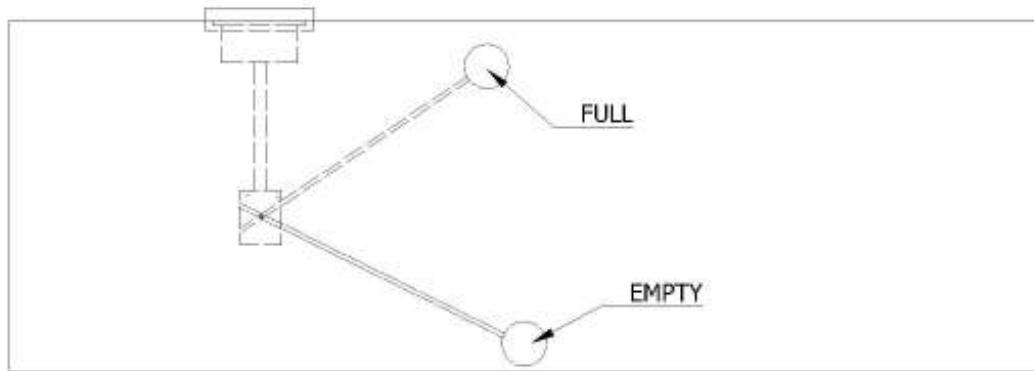

Fig. 9-5: Float mechanism
Scheme of fuel quantity is shown in the Fig. 9-5.
- (b) Set position and length of the fuel level sender lever according to the Fig. 9-5.